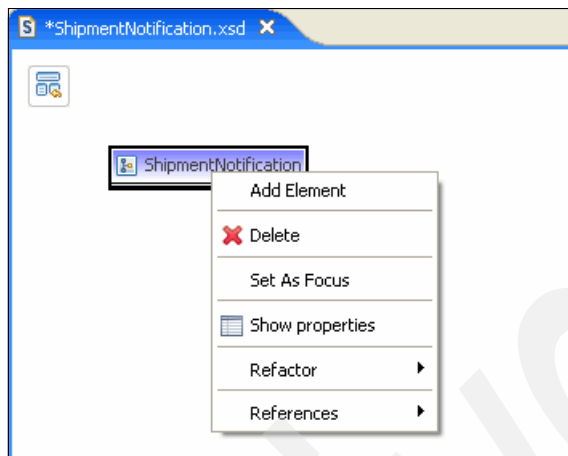

Figure 9-19 Adding elements
- As shown in Figure 9-19, double-click the newly created **Shipment Notification** type. Right-click **ShipmentNotification** and select **Add Element**.